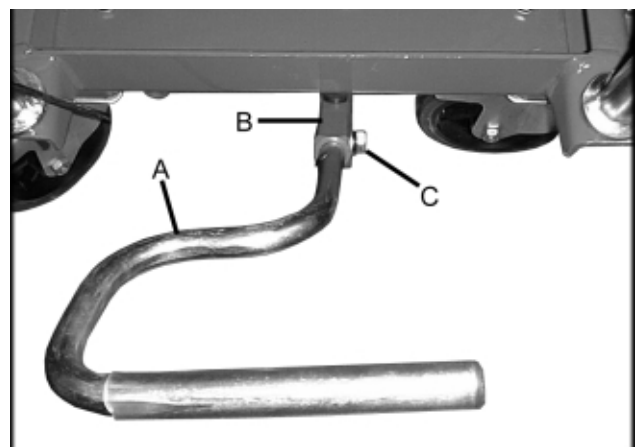

Fig. 3
2. Attach foot lever (A, Fig. 3) to the lever bracket (B, Fig. 3) with one hex cap bolt, one flat washer, one lock washer (C, Fig. 3). Tighten with a 14mm wrench.